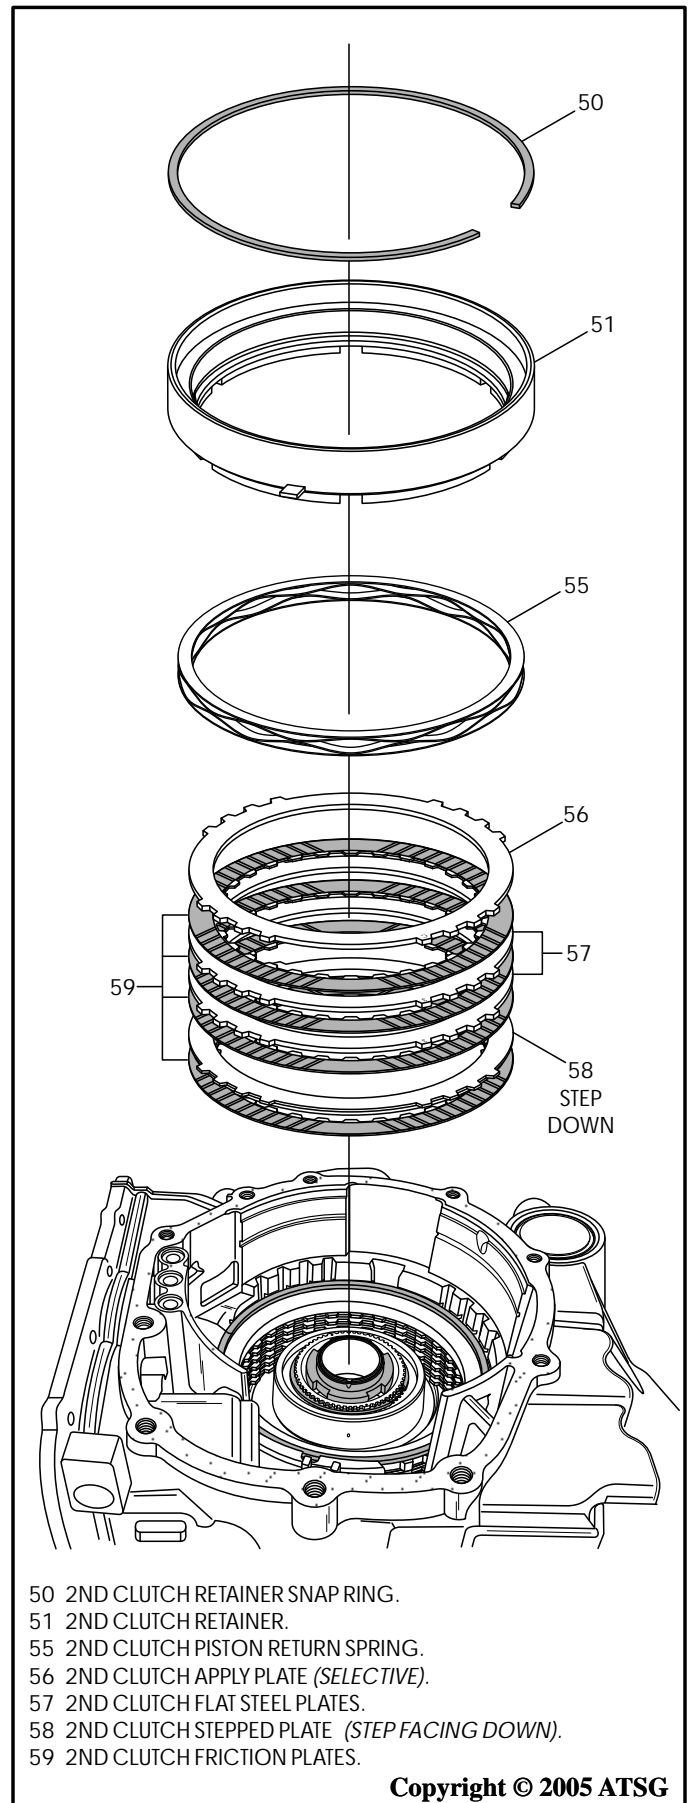

Figure 178
50. Install the 2nd clutch plates, beginning with a friction, followed by the stepped plate with the step facing down, followed by frictions and steels, and finally the selective plate, piston retainer and snap ring. (See Figure 178).
54. Now, remove the complete 2nd clutch pack using Figure 178, as a guide.